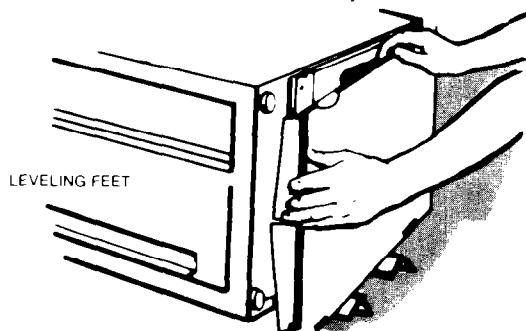

Figure 5
4. Lay two carton corner posts or other protective material (such as a throw rug) on the floor, then lay the unit on either of its sides on the corner posts. The corner posts will protect the finish of the compactor and the floor. See Figure 5.
5. Remove the cardboard shipping pad located on the bottom. See Figure 5.